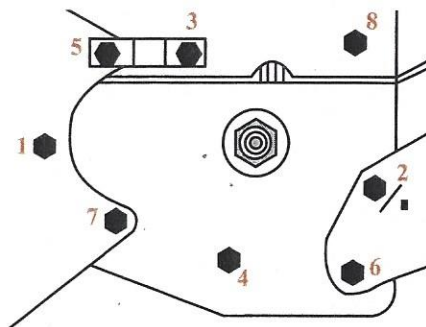

Figure 3-33. Bolts on an engine head should be tightened in a crisscross manner.
9. **Use a crisscross tightening pattern.** Final torquing should follow either a basic crisscross pattern or the factory recommended pattern. This procedure produces even gasket compression and sealing, and prevents possible warping of parts. See Figure 3-33.